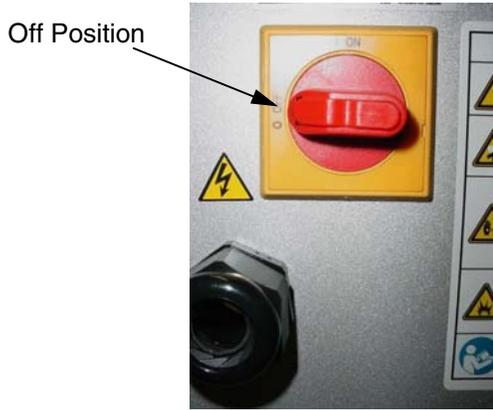

FIG. 2
1. Ensure main power is turned off. Disconnect power supply or turn off main breaker for system. See FIG. 2.